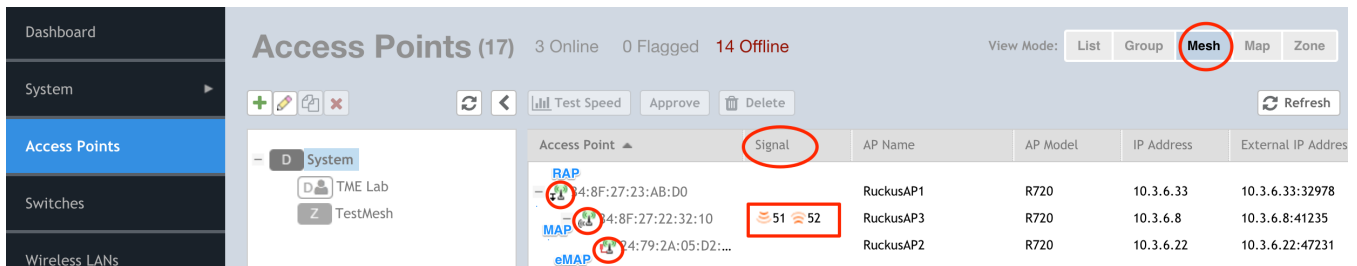
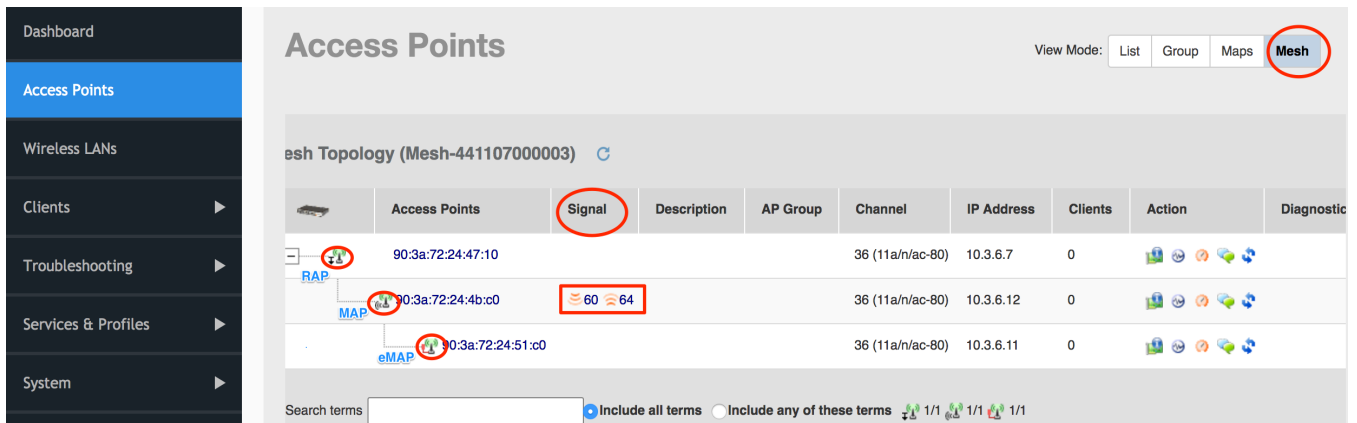
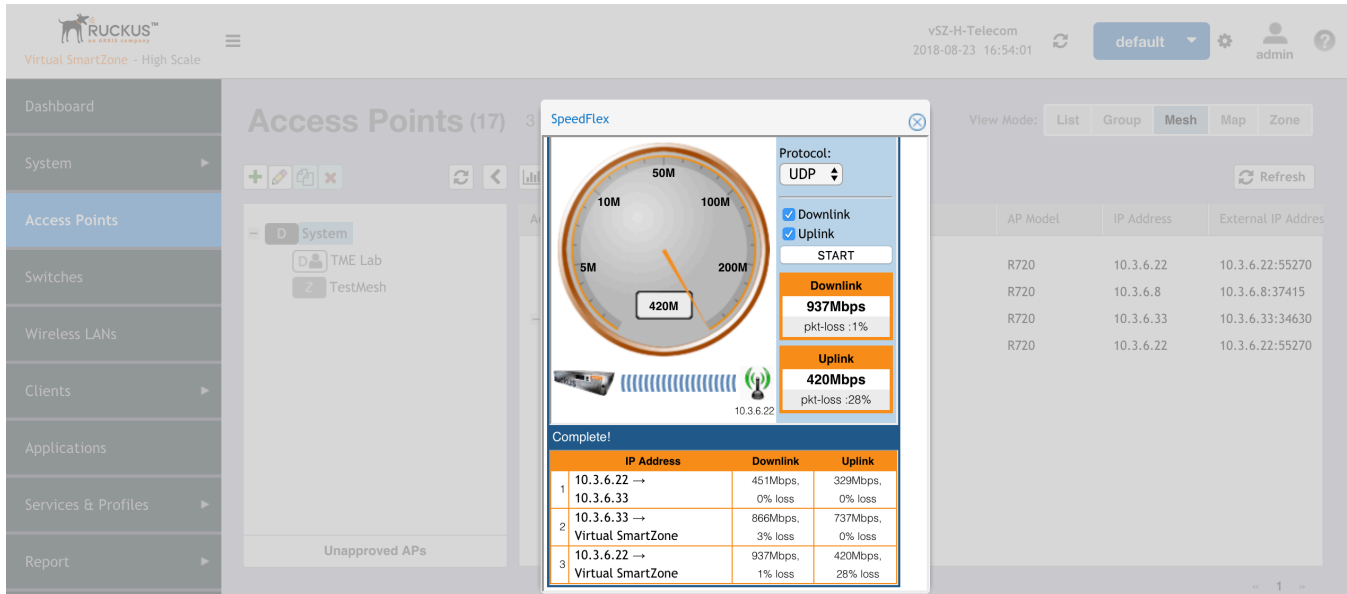

FIGURE 17: SZ MESH VERIFICATION
FIGURE 18A: ZD MESH VERIFICATION
FIGURE 19B: SZ MESH SPEEDFLEX TEST
As seen in the figures 17 and 18, each type of mesh node has a special marker associated with it. There are many useful pieces of information to be gleaned from this page that we'll discuss in the next few sections.
In Figure 17 on the SmartZone controller, the "Signal" at the MAP is displayed in SNR in dB. In Figure 18 on the ZoneDirector, the "Signal" can toggle between SNR in dB (Figure 18A) and Ruckus Signal % (Figure 19B) by clicking on the values. In Figure 18A, the first number (60) is the SNR from the RAP (90:3a:72:24:47:10) to the MAP (90:3a:72:24:4b:c0). The second number (64) is the SNR from the MAP to the RAP. The SNR is raw signal over the noise floor or noise generated by other devices on the same/adjacent channel. The higher the number the better the throughput and fade margin for when things go south.